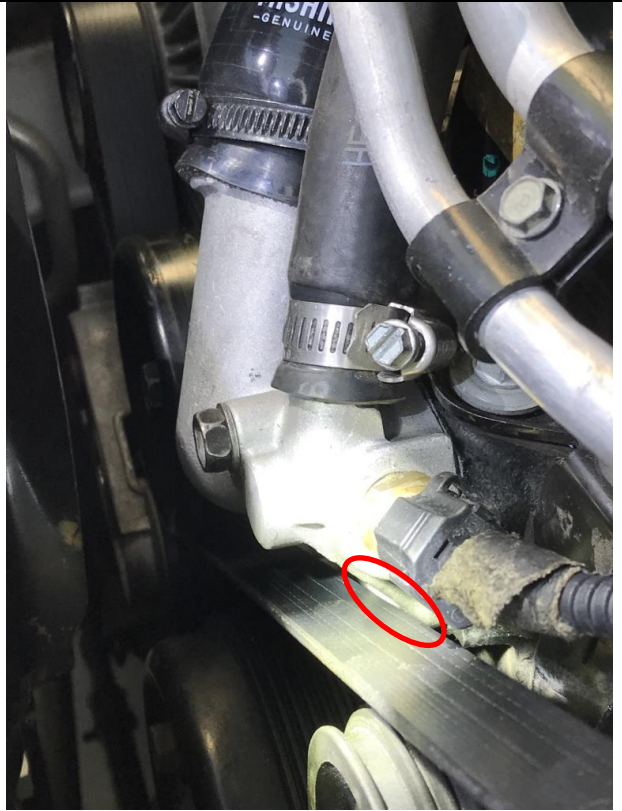

Figure 3: Thermostat housing interfering with belt.
44.3. Figure 3 shows the belt touching the thermostat housing